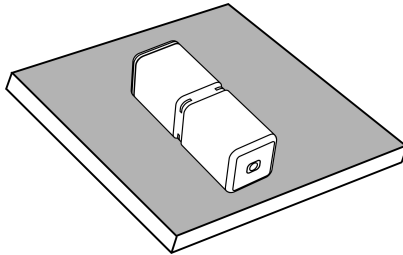

Figure 12A
- iii. Then stop shaking it, leave WWD on the table in Horizontal position as Figure 12A;